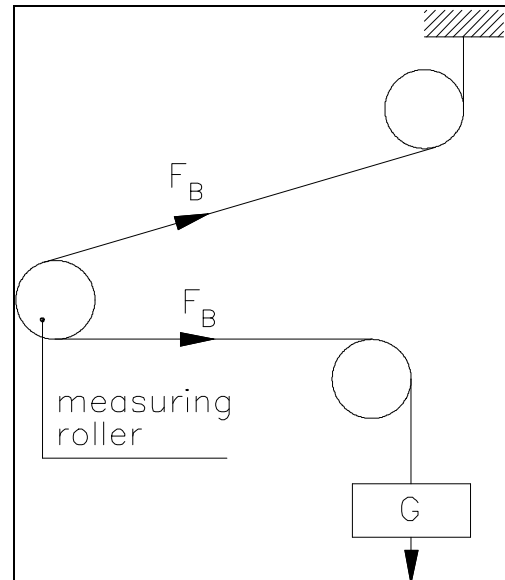

fig. 10: Calibrating the measuring amplifier C431011e
The following instructions are referring to a setup and calibration on-site. The material tension will be simulated by a weight (fig. 10).
- Load material or rope with a defined weight (fig. 10)